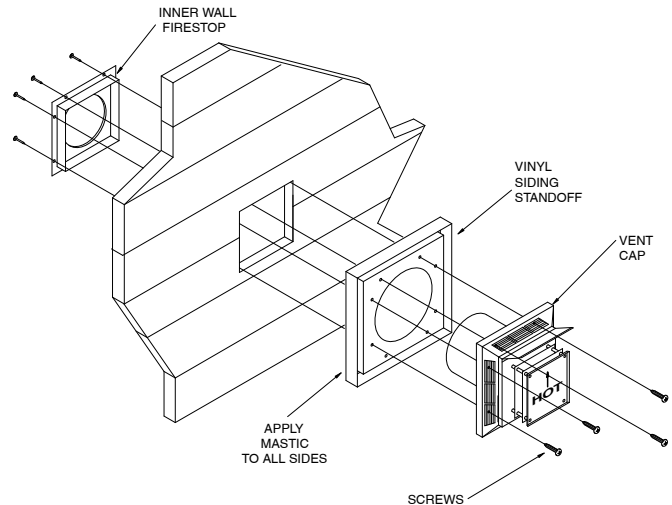

Figure 14 - Installing Siding Standoff
**Combustible Exterior Wall:** For vinyl siding, stucco or wood exteriors, a siding standoff may be installed between the vent cap and exterior wall. The siding standoff prevents excessive heat from damaging the siding materials. Siding material must be cut to accommodate standoff. Bolt the vent cap to the standoff. Apply non-hardening mastic around outside edge of standoff. Position the standoff/cap assembly in the center of the 10 3/4" square hole and attach to exterior wall with wood screws provided (see **Figure 14**). The siding standoff must sit flush against the exterior fascia material.